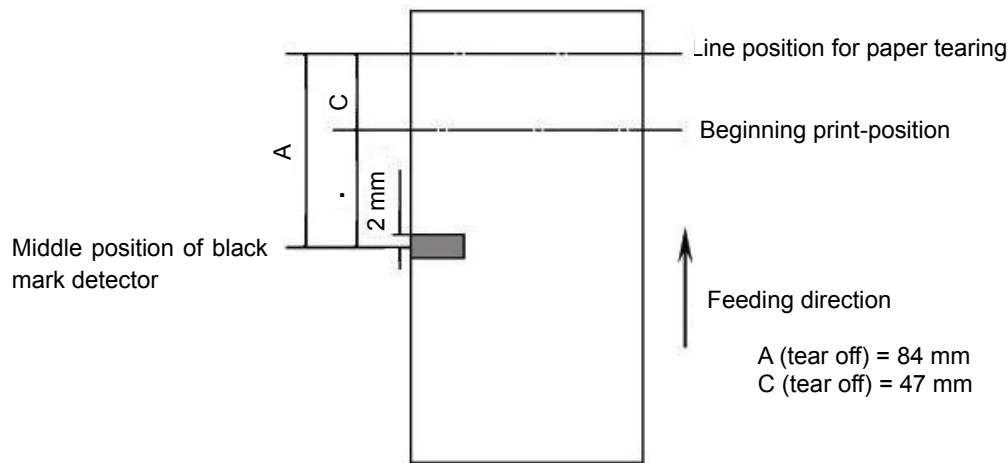

Figure 1
- The inherent mechanical value of the printer: $L_0 = A$ (mm) $Q_0 = C$ (mm) (shown as Figure 1).
The examples below assume that the paper tear position is on the printer tearing part, $L_0 = 67\text{mm}$, $Q_0 = 29\text{mm}$ (shown as Figure 1).